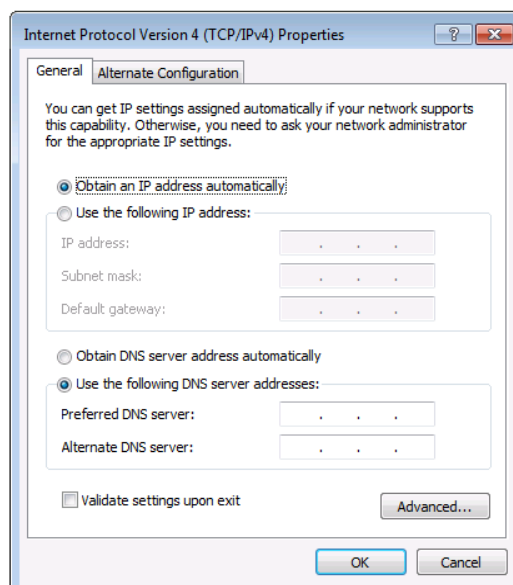
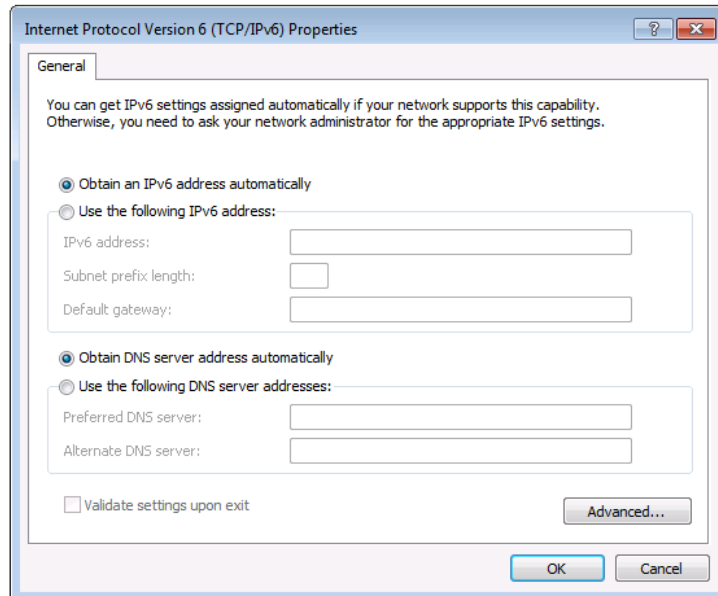

Figure 6: Internet Protocol Version 4 Properties Window
Figure 7: Internet Protocol Version 6 Properties Window
- The Internet Protocol Properties window (specific to your IT system) shows as in Figure 6 or Figure 7.